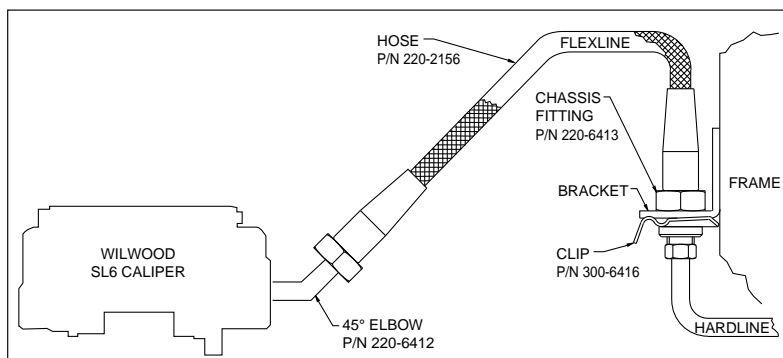

Figure 4. Brake Line Diagram
- Remove the caliper center bridge pad retainer bolt, nut, and tube from the caliper. Insert the brake pads (13) into the caliper, with the friction material facing the rotor, as shown in Photo 4. Check that the top of the brake pad is flush with the outside diameter of the rotor, Photo 5. If not, adjust by adding or subtracting shims (12) between the caliper and the bracket. After the caliper pad height is set, reinstall the center bridge pad retainer tube, bolt, and lock nut. The lock nut should be snug without play in the bolt or tube. Be cautious not to over tighten. Torque the caliper lock nuts (8) to 30 ft-lb.
- NOTE:** The caliper in this brake kit utilizes a 1/8-27 NPT pipe thread inlet. OEM rubber brake hoses generally cannot be adapted to Wilwood calipers. Wilwood offers a brake flex line hose kit to fit this application, order P/N 220-9100, Figure 4. Hose kit includes hoses, fittings, etc., all in one package for this application. **Carefully route hoses to prevent contact with moving suspension, brake or**